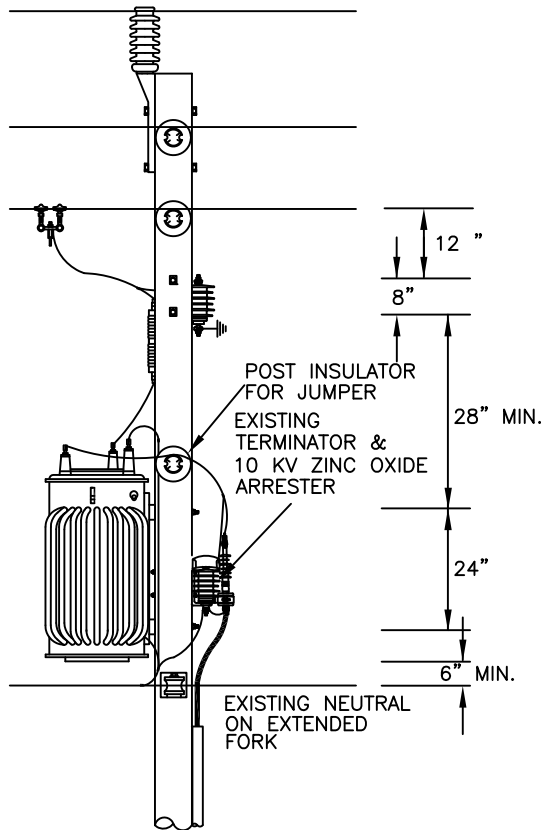
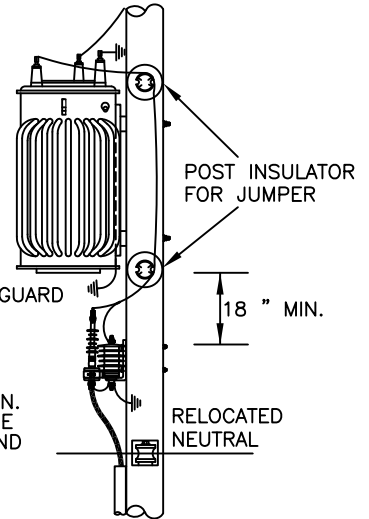

FIG. 1
FIG. 3
1. FRAMED ACCORDING TO FIG. 1, AN EXISTING TERMINATOR/ARRESTER NEED NOT BE RELOCATED. IF CLIMBING SPACE IS A CONCERN (AND SPACE PERMITS), LOWER THE TERMINATOR AND INSTALL THE TRANSFORMER ABOVE IT. SEE FIG. 3.